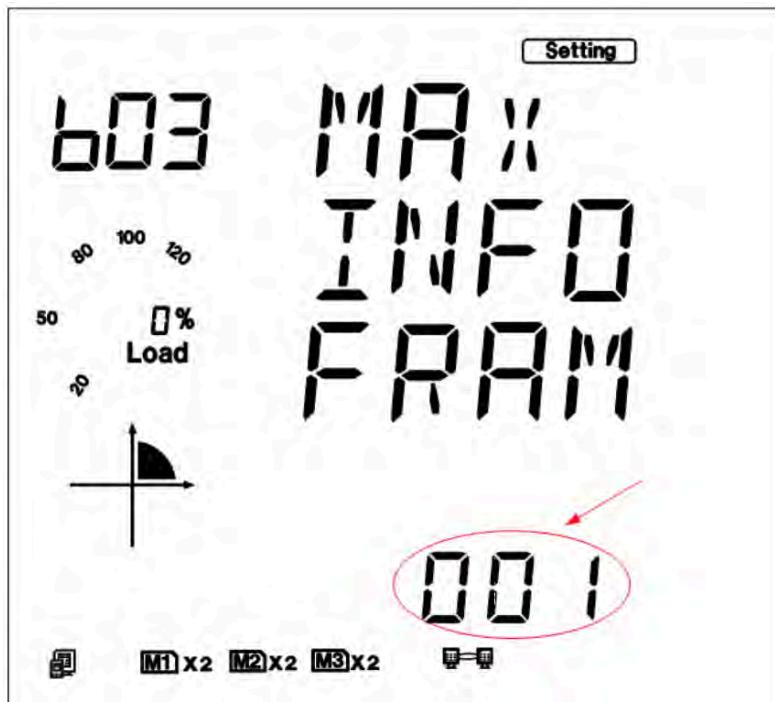

Fig 5-84
j). Set resetting mode in the eighth setting page. Select “RESET” to reset the module. Selecting “NO” will not reset the module. Press the "V/A" key to go to the setting page and the parameter pointed out in Fig 5-84 will flash. Press the "P" or "E" key to select the configuration mode. Press the "V/A" key to accept.